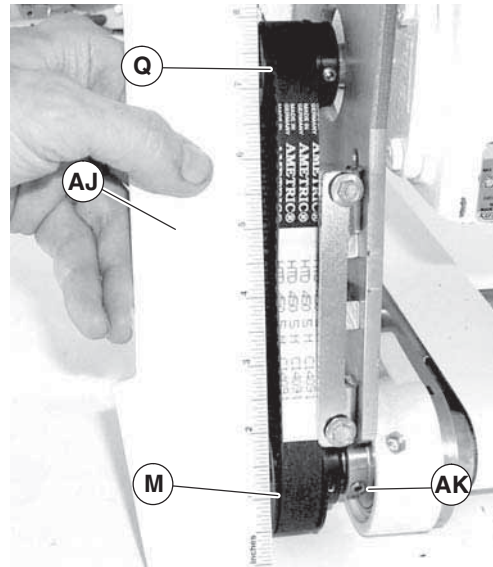

Figure 10
4. Using a straight edge (Figure 10, item AJ), align driven pulley (M) with drive pulley (Q). Tighten two driven pulley set screws (AK).